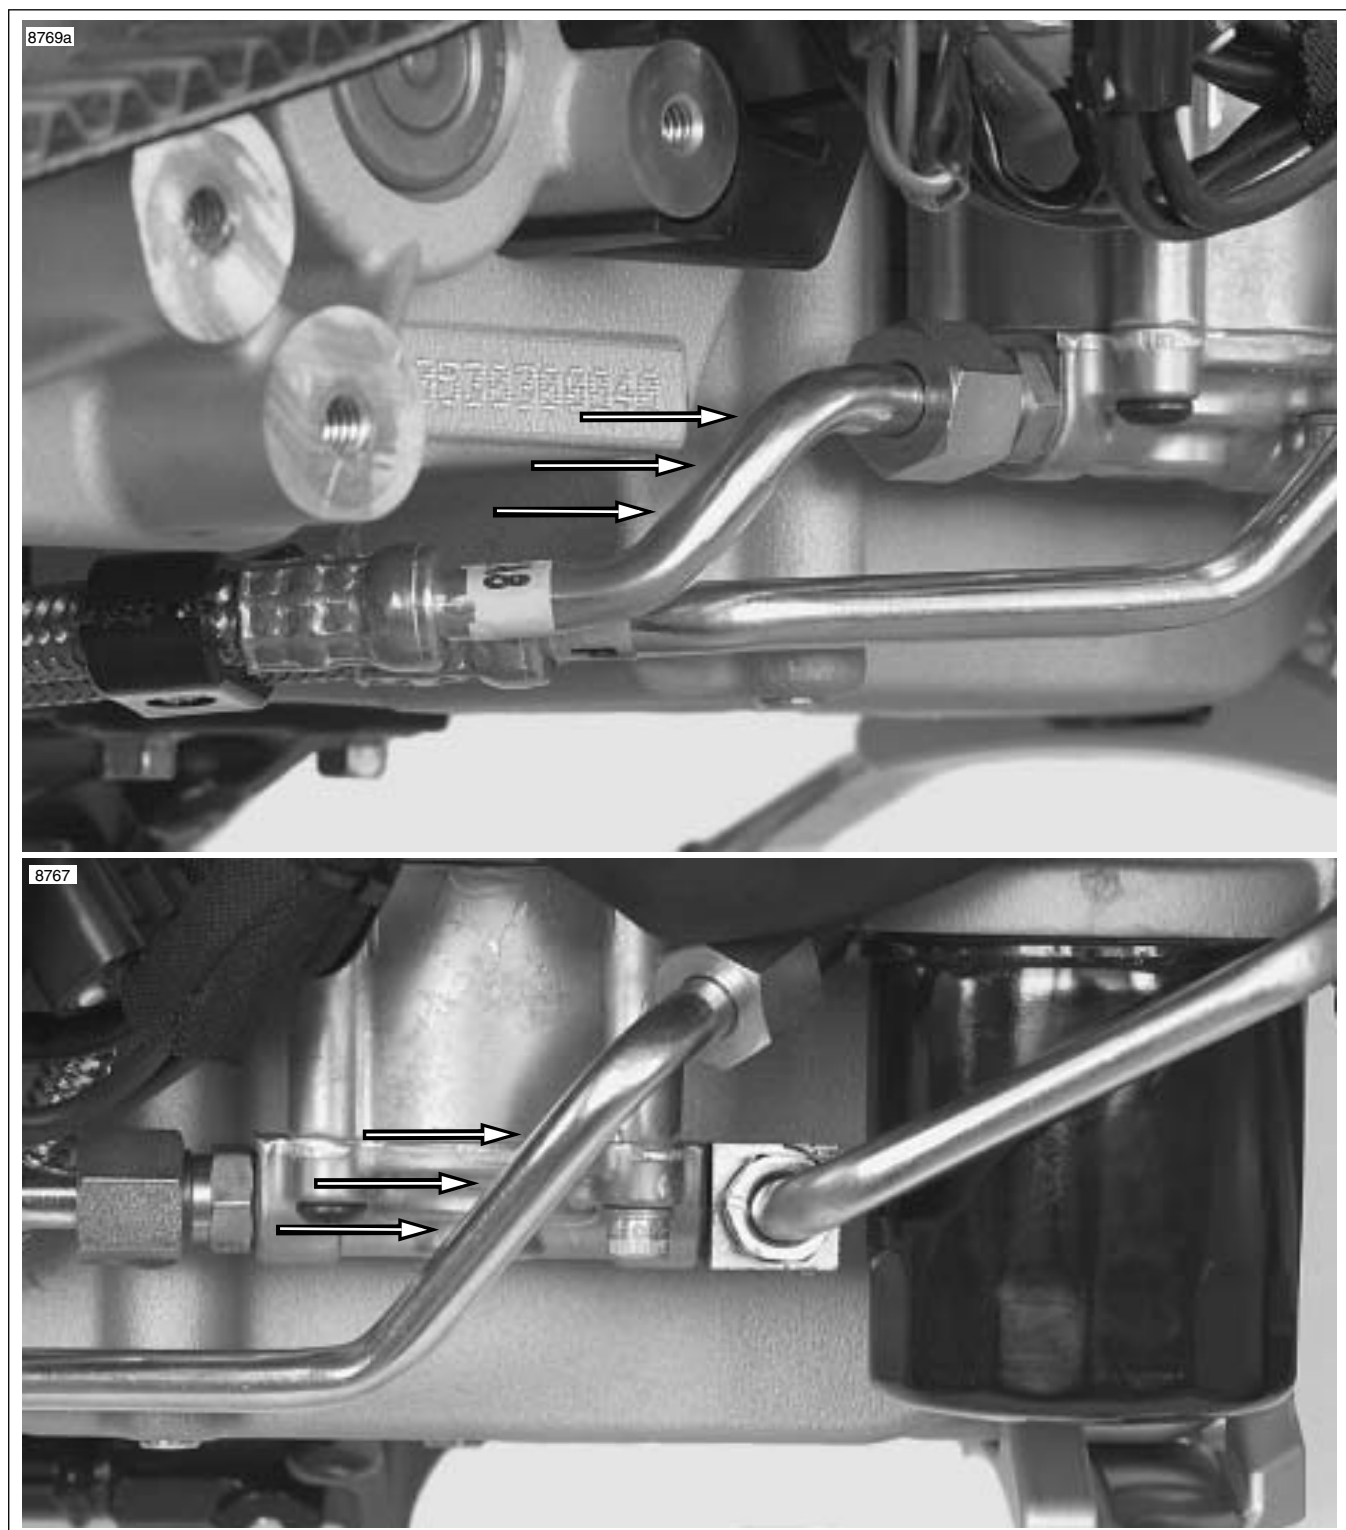

Figure 3-49. Approximate Seven O'Clock Orientation of Oil Feed Line and Oil Return Line at the Oil Pump
25. See Figure 3-49. Torque feed oil line to 27-29 ft-lbs (36.6-39.3 Nm) at the rear of the of the oil pump. When the oil line has been properly torqued, the orientation of the line should be approximately 7 o'clock.